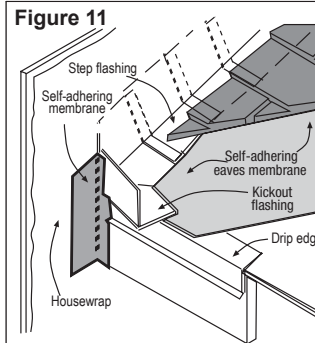

Figure 11
Figure 11, Kickout Flashing * To prevent water from dumping behind the siding and the end of the roof intersection, install a "kickout" of sufficient length and angle to direct the water running down the roof away from the siding.
* The illustration (figure 11) was reprinted with permission of THE JOURNAL OF LIGHT CONSTRUCTION. For subscription information, visit www.jlconline.com.